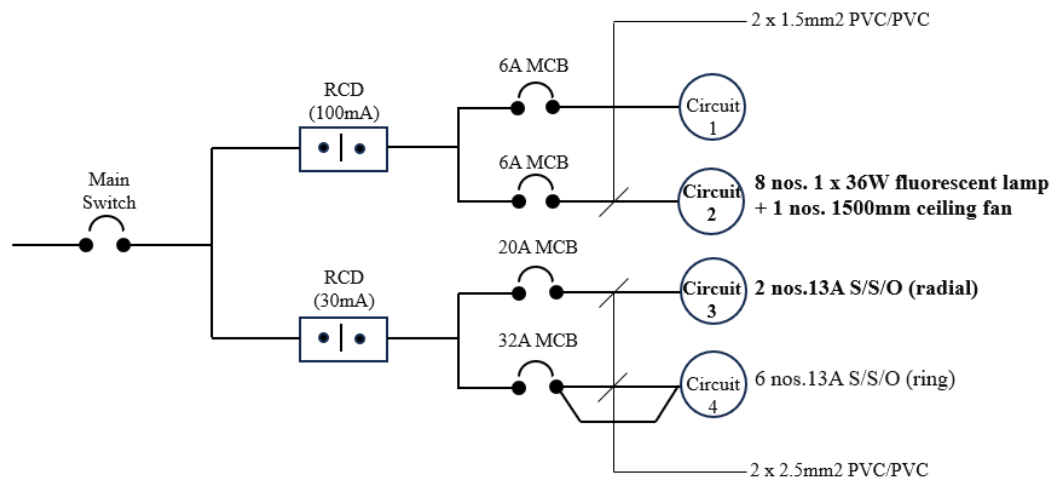

Figure B2(c) / Rajah B2(c)
- CLO1 (c) A single-phase electrical supply is connected with final circuits that are represented by a wiring schematic diagram as shown in Figure B2(c). As an electrical contractor, explain:
- i. any **TWO (2)** of the electrical accessories used in the wiring system.